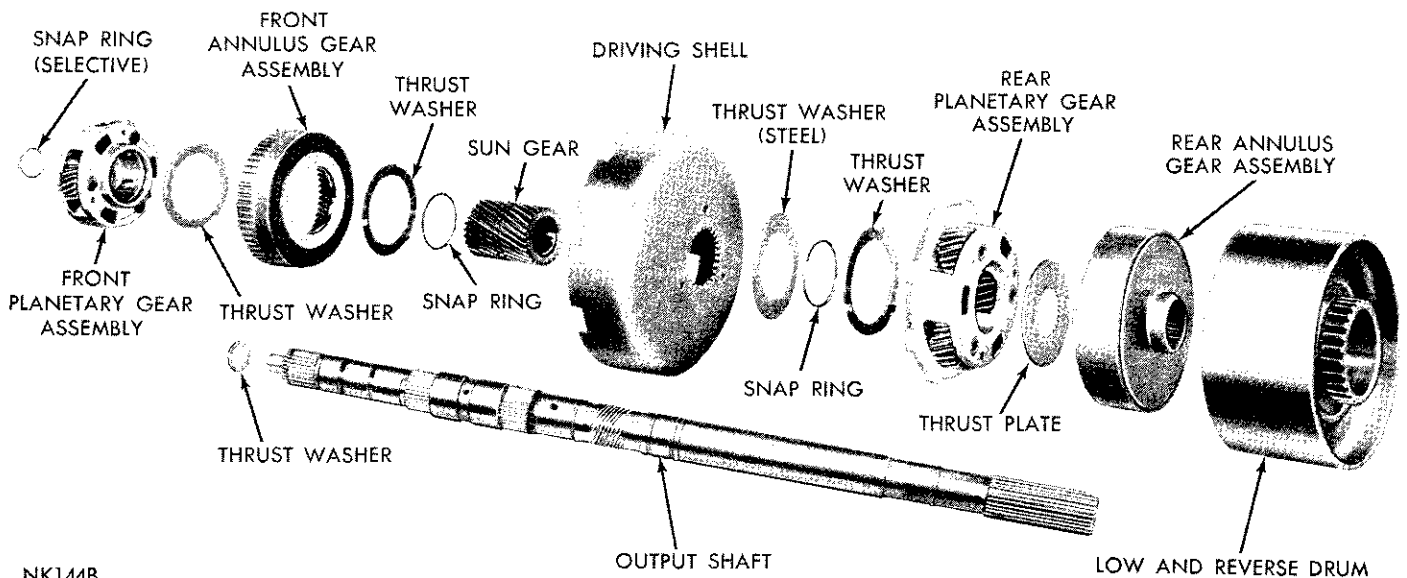

Fig. 65—Planetary Gear Train and Output Shaft Disassembled (A-727)
- (1) Remove thrust washer from forward end of the output shaft (Fig. 65).
- (2) Remove selective snap ring from forward end of output shaft, then slide front planetary assembly off the shaft.
- (3) Slide front annulus gear off the planetary gear set (Fig. 65). Remove thrust washer from rear side of the planetary gear set.
- (4) Slide sun gear, driving shell and rear planetary assembly off the output shaft.
- Refer to Figure 65 for parts references.
- (1) Install rear annulus gear on the output shaft. Apply a thin coat of grease on thrust plate, place it on the shaft and in the annulus gear making sure teeth are over the shaft splines.
- (2) Position rear planetary gear assembly in rear
(1) Cut a 3-1/2 inch diameter hole in a bench, in the end of a small oil drum or a large wooden box strong enough to support transmission. Cut or file notches at the edge of the 3-1/2 inch hole so output shaft support will fit and lay flat in the hole.
(2) Carefully insert output shaft into the hole to support the transmission upright, with its weight resting on flange of the output shaft support.
(3) Apply a coat of grease on the input to output shaft thrust washer (Fig. 65), and install the washer on front end of the output shaft.
(4) Align front clutch plate inner splines, and place assembly in position on the rear clutch. Make sure front clutch plate splines are fully engaged on the rear clutch splines.